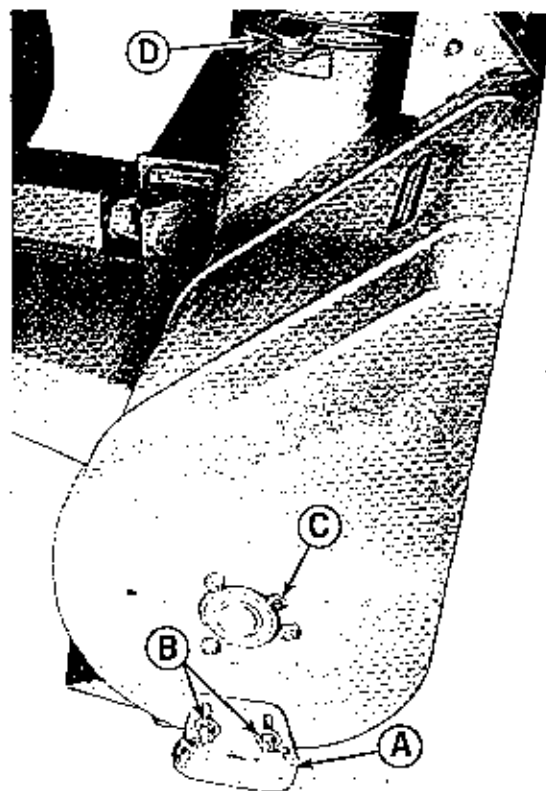

Figure 11. Grease zerk at right end of auger.
See figure 11. The two skid shoes (A) located on each side of the snow thrower housing should be lowered all the way down when operating on a gravel surface. To adjust the skid shoes raise the snow thrower housing a couple of inches off the ground. Loosen the two nuts (B) and drop the skid shoes to the lower position. Set the bottom surface of the skid shoes so they are level, or slightly (maximum of 1/8") higher in the front and tighten nuts (B) securely. Both skid shoes should be positioned the same. The snow thrower will now be supported on the skid shoes so the scraper bar can skin the snow from the surface without picking up and throwing stones.
See figure 11. Loosen the two skid shoe mounting nuts (B) and lower the snow thrower until the scraper bar supports it. Slide the skid shoes down to contact the hard surface. Tighten the nuts on both skid shoes taking care that their position doesn't change while the nuts are tightened. The full width scraper bar on your Simplicity snow thrower will now get down to the hard surface and scrape it clean.
1	Right auger bearing (Figure 11, item C)
A thin film of grease or a few drops of SAE 30W engine oil should be placed on the snow thrower mounting pins, Figure 6, item A, the snow thrower chute rotating bearings, (Figure 11, item D), and the drive shaft spline (Figure 6, item B).